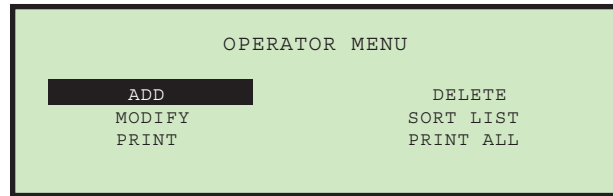
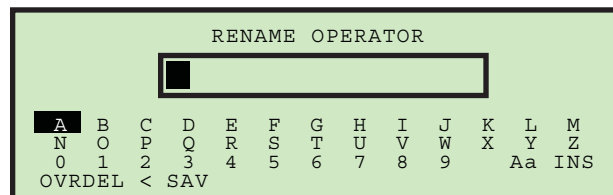

Figure 54: Operator Menu screen
Figure 55: Rename Operator screen
1. On the OPERATOR MENU screen (Figure 54), select ADD. The RENAME OPERATOR screen will appear (Figure 55).
1. On the OPERATOR MENU screen (Figure 54), select DELETE. The SELECT OPER TO DELETE screen appears.
1. On the OPERATOR MENU screen (see Figure 54), select MODIFY. The SELECT OPERATOR screen will appear.
1. On the OPERATOR MENU screen (Figure 54), select SORT LIST.